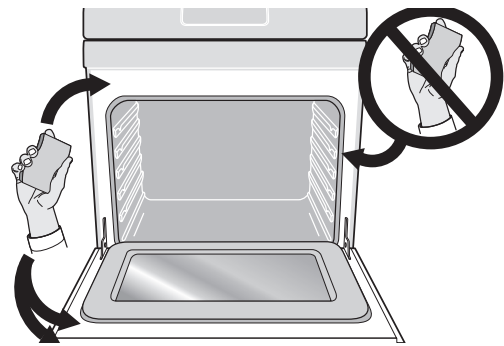

Figure 30: Clean around the oven door gasket
- Do not clean the oven door gasket (Figure 30). The woven material of the oven door gasket is essential for a good seal. Care should be taken not to rub, damage, or remove the gasket.
- Clean any soil from the oven frame, the door liner outside the oven door gasket, and the small area at the front center of the oven bottom. These areas heat sufficiently to burn soil on. Clean with soap and water. These areas are shown in white (Figure 30).